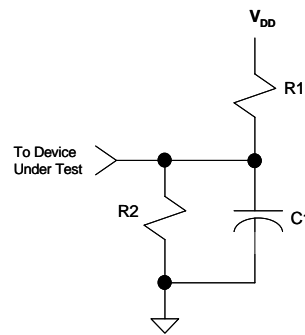

Figure 5: AC Test Load
6. *With loads specified in Figure 5 on page 28, Test Load A from Table 8.*
7. *With loads specified in Figure 5 on page 28, Test Load B from Table 8.*